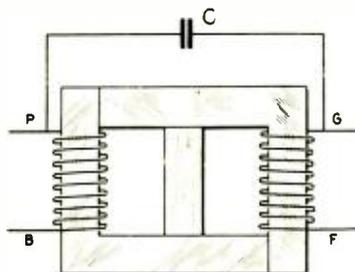
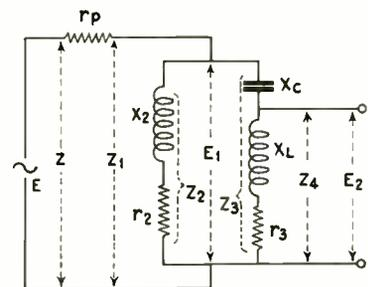

Fig. 1. Details of the tuned double impedance unit
Fig. 3. Illustrating the electrical properties of a single stage tuned double impedance amplifier
- FIG. 1 -
drivers we will analyze the circuits in Figs. 1, 2 and 3.
In the circuit in Fig. 1 we have a loosely coupled coil, coupling the measuring equipment to the driver circuit. The oscillator proper consists of a Meissner circuit, which means that the inductance is a split affair with a condenser across the entire inductance, half of the inductance being in the grid circuit and the other half in the plate circuit.
In Fig. 3 we have a much better arrangement for a laboratory driver. We find the condenser, of course, tuning the grid coil as in our other diagram. A little different system of feed-back is used, however. A shunt feed battery system is used, which allows the use of a variable resistance in the plate circuit to reduce the feed-back to the best operating position. This resistance allows the reduction of the feed-back voltage to the grid, thus preventing overloading, and acting as a harmonic purifier. Connected directly to the plate we have a condenser, a resistance and a voltage divider. This allows regulation with very little change in the frequency caused by external load conditions. As much better as this circuit is to the other ones there is still room for improvement; namely, we still have a little bit of trouble with frequency variation on account of variations in load. Of course, this trouble is much less than in the inductive systems of pick-up. We also find that varying the feed-back resistance varies the frequencies to a marked degree. Thus, this circuit, which is much better than the others, still is not the ideal insofar as the laboratory driver goes.
we did not have the amplifier tube to gain the signal strength. In the plate circuit of both tubes we find that the battery power is fed through resistances. This system of battery feed is used in preference to a choke coil system because of the fact that, while it has one frequency to which it responds most efficiently, at the same time the variation of impedance with frequency is, to all workable purposes, constant and since we do not need a large power output from this driver for measuring transformer characteristics, it is not necessary for us to use a choke coil system. This resistance arrangement, however, is arranged on plugs. This allows making the driver flexible in regards to its frequency as it is impossible to use the resistance arrangement below 1000 meters. We also find in this driver that where in the driver circuit in Fig. 3 we had difficulty with keeping the frequency constant while varying the feed-back resistance, we no longer have this difficulty to a marked extent.
- FIG. 3 -
The tuned double impedance circuit and units are illustrated in Figs. 1 and 2 and the impedance relations are shown in Fig. 3. Believe it or not Fig. 3 is the same circuit as Fig. 1. The important formulae to remember in connection with the circuit are two in number.
The transformer is tied up with two half wave rectifiers as shown in Fig. 1. Quoting from Van der Bijl's "Thermionic Vacuum Tube:" when the transformer voltage is such that D is at a positive potential with respect to O, an electron current will flow in the direction of the arrow through the tube V, thus charging the condenser C such that A is positive with respect to O. But during this half period no current will flow through the tube V₁ in circuit DB. During the next half cycle current flows only through V₁—DB, charging B negatively with respect to O. The potential difference between A and B (if the condensers did not discharge themselves) would therefore be twice the transformer
The complete arrangement for a double voltage "B" eliminator, tied up with a 210 power tube, is shown in Fig. 3. T is a standard "B" eliminator power transformer while V and V₁ are two half wave rectifier tubes. The condensers C and C₁, which are instrumental in doubling the voltage, have a capacity of 2 mfd. each. The voltage rating on these condensers need not be very high.